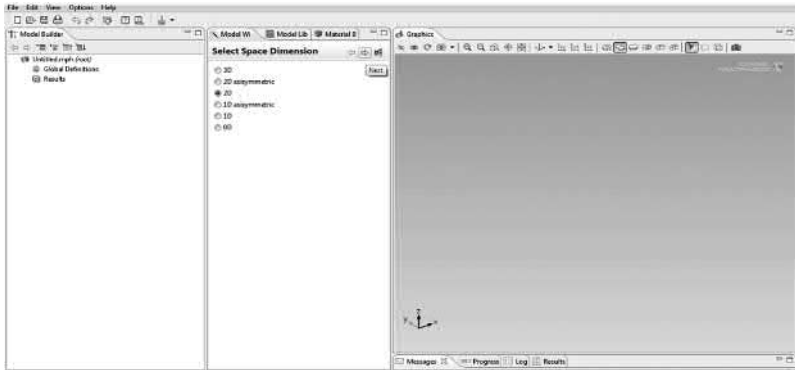

**FIGURE 5.12** Computational domain of transient heat transfer in two dimensions.
The boundary conditions of the slab are shown in Figure 5.12.
- Select the left boundary on the square graph. Click on the “+” sign at the top right corner, this will add *boundary 1* in the *Boundary Selection* tab. At this point, put  $r: T + Tx$ . This step will add a *Neumann boundary condition* for the left boundary as given in Figure 5.12 (Note: as  $T = r$ ;  $r = T + Tx$ ,  $T = Tx$ ).
- Select the bottom boundary on the square graph. Click on the “+” sign at the top right corner, this will add *boundary 2* in the *Boundary Selection* tab. At this point, put  $r: T + T_y$ . This step will add a *Neumann boundary condition* for the bottom boundary as given in Figure 5.12 (Note: as  $T = r$ ,  $r = T + T_y$ ,  $T = T_y$ ).
add *Dirichlet boundary conditions* for the bottom and top boundaries as given in Figure 5.12. (Note: as  $T = r$ ,  $r = 400$ ,  $T = 400$ ).